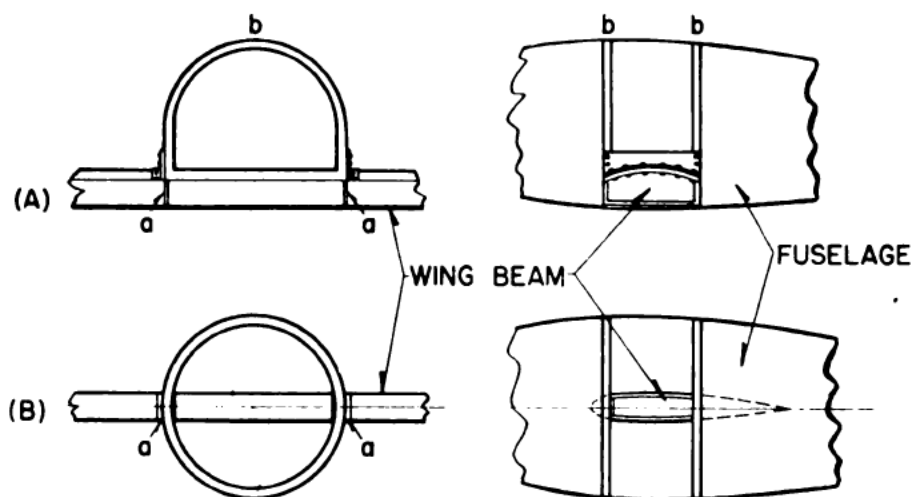

Figure 8.—Fuselage—wing connection.
Look at figure 8. Here you see the part bulkheads and reinforcing rings play in the ATTACHMENT OF A FUSELAGE TO A WING.
With a fuselage and a wing, you have essentially two tubes at right angles to each other. In (A) of figure 8, which shows the arrangement on a low-wing airplane, you see that the wing beam has bulkheads *a-a* to strengthen the points where it is attached to the fuselage. The fuselage reinforcing rings *b-b* are attached to these bulkheads.